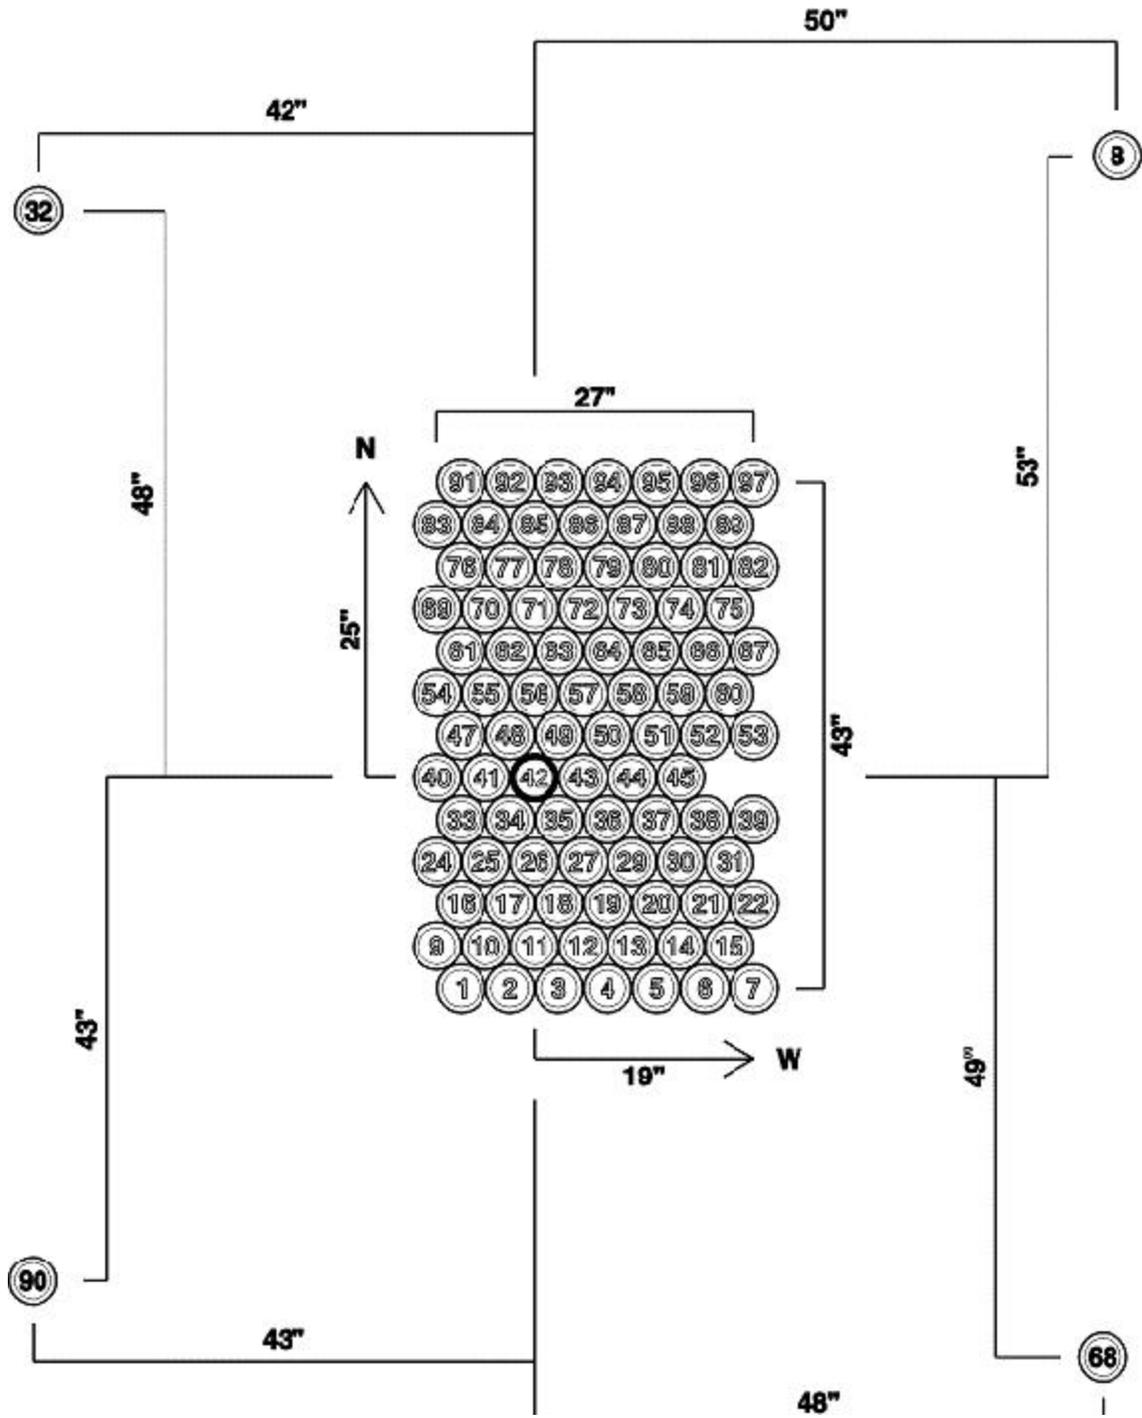

Figure 3: Mapping of Fibers and Relative Positions
- Layout: Evenly spaced about 60 arcseconds from array center (see Figure 3 for exact spacing)
The DensePak fibers are numbered according to their slit position at the spectrograph. The raw images of spectra are oriented with fiber 1 appearing on the right and fiber 97 on the left of the CCD images. Figure 3 details the mapping of the fiber numbers in the array. Note, this diagram is oriented as DensePak appears when viewing it with the acquisition TV with North up and East to the left (see "Instrument Use" section for viewing instructions). Approximate dimensions of the array and sky fibers WRT field center (fiber 42) are shown in figure 3.
Notes to Figure 3: